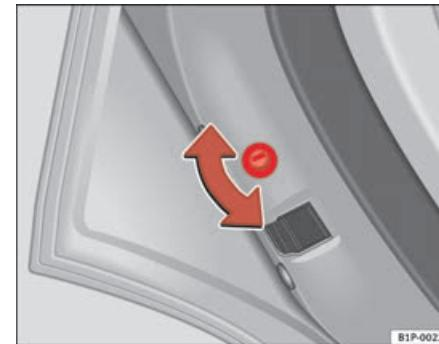
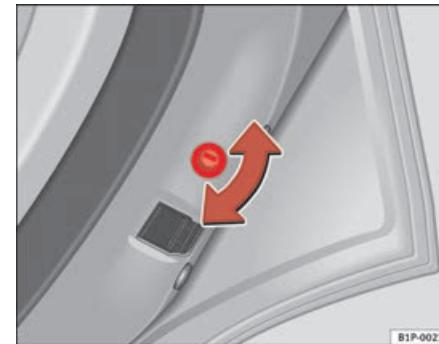

Fig. 44 Child safety lock on the left hand side door
Fig. 45 Child safety lock on the right hand side door
- With the door open, rotate the groove in the door using the ignition key, anti-clockwise for the left hand side doors, and clockwise for the right hand side doors ⇒ page 74, fig. 44,
⇒ page 74, fig. 45.
- With the door open, rotate the groove in the door using the ignition key, anti-clockwise for the right-hand side doors, and clockwise for the left-hand side doors ⇒ page 74, fig. 44, ⇒ page 74, fig. 45.